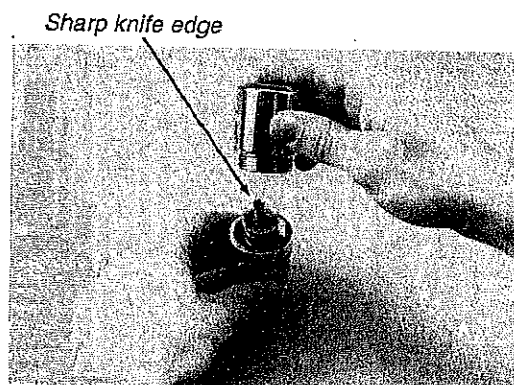
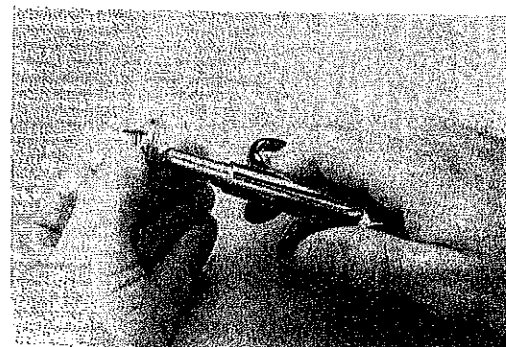

Fig. 4A
Fig. 5A
8. Using internal circlip pliers, remove the circlip(4) that retains the cone filter(5). The cone filter is now accessible, and should drop out freely in your hand. Discard, and DO NOT attempt to reuse. The filter o-ring(6) is now accessible. Remove and inspect for any signs of decay. Discard if found.
10. Rotate the main body and the piston cap in opposite directions to separate, with the main body facing up vertically. Lift the main body straight up and off the shaft of the piston(32) to avoid any angular pressure that might damage the delicate edge of the piston shaft. (See fig. 4A.) Set the piston cap aside, standing on the swivel, with the piston shaft exposed and facing up.
11. Look for the colored spring isolator(30) found either inside the cavity of the main body, or on the end of the valve spring(31). Remove and inspect for signs of wear or distortion, and discard if found.
12. Insert the prongs of a genuine Oceanic face spanner wrench into the two outer recessed holes of the valve seat end plug(24), found on the end of the main body. Use downward pressure to hold the tool seated securely, and rotate the end plug in a counterclockwise direction to remove. Remove and discard the valve seat o-ring(27). Remove and inspect the end plug o-ring(25) for any signs of decay. Discard if found.
13. Remove the valve seat(26) from the end plug by directing short blasts of low pressure air through the small opening found directly in the center of the end plug(See fig. 5A.). First, wrap a cloth over the seat to prevent it from ejecting suddenly and becoming lost. Discard and DO NOT attempt to reuse.